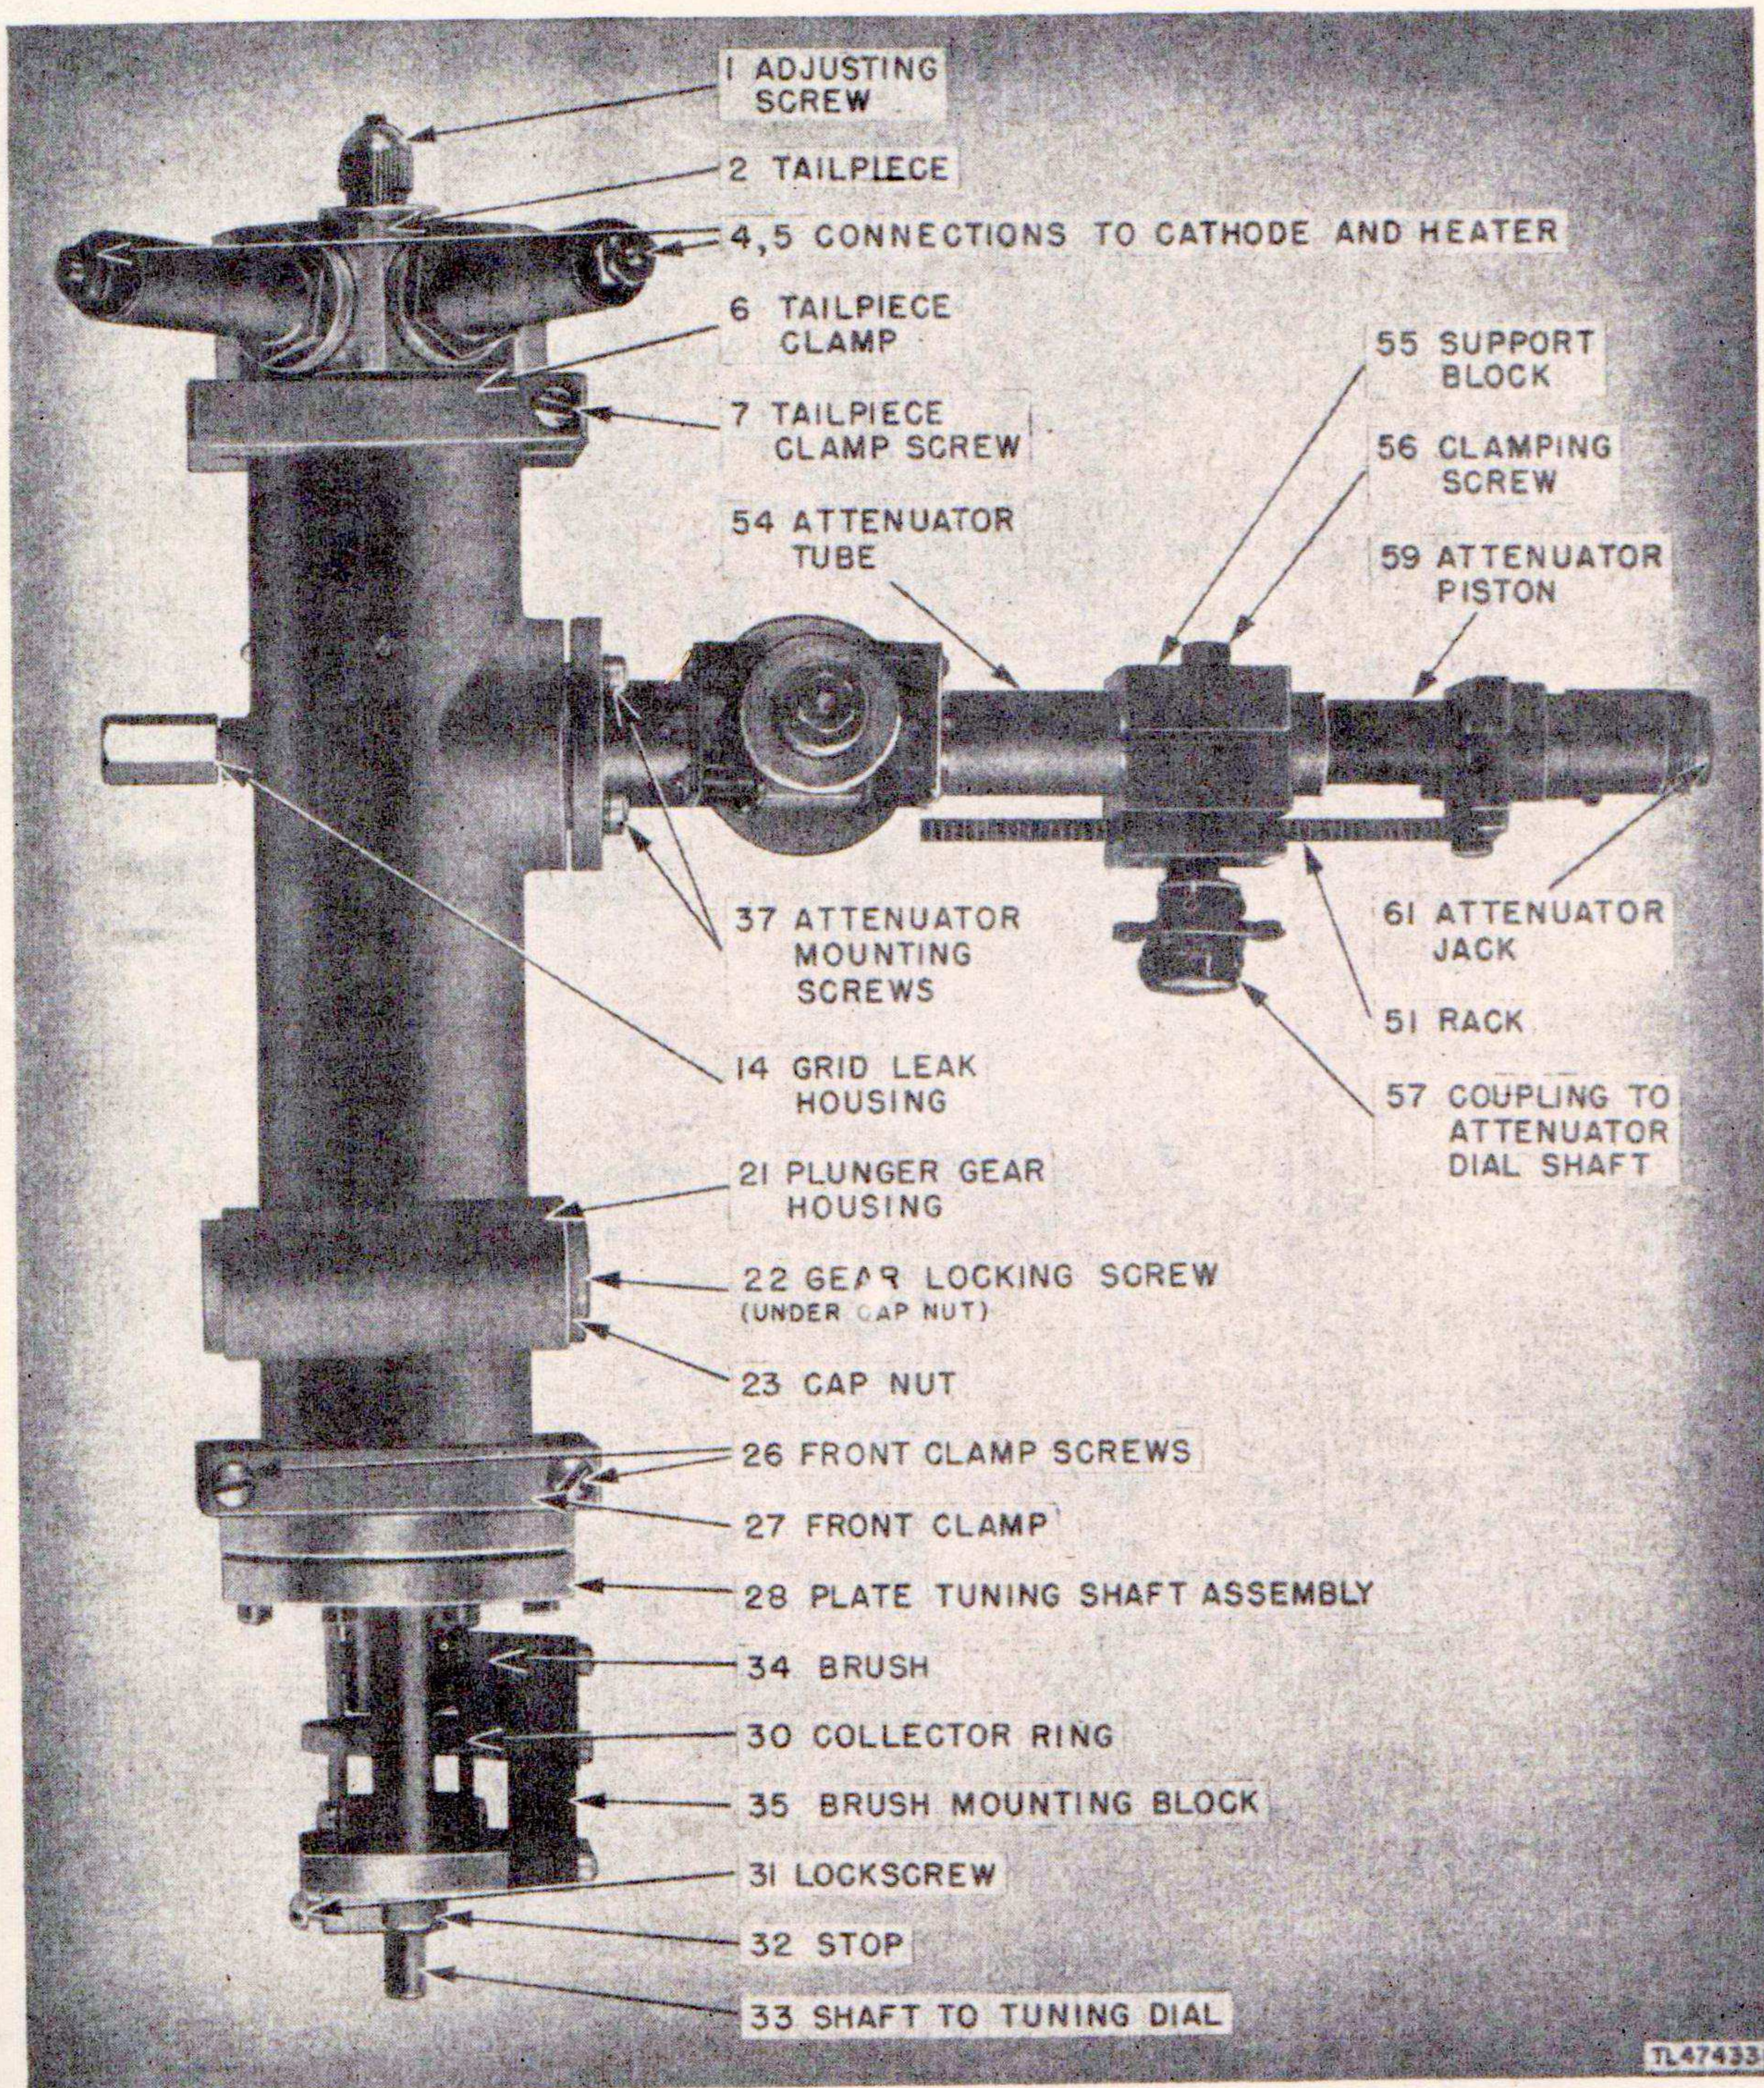

Figure 39. Oscillator assembly removed from signal generator chassis.
(1) Disconnect the attenuator cable connection (70).
(2) Unsolder and remove all thermistor terminal connections. Tag all leads to facilitate location during reassembly.
(3) Disconnect the plate lead (66) on the brush mounting block (35).
(4) Loosen the r-f tuning shaft setscrews (65) and setscrews (67) at the coupling to the attenuator dial shaft (68).
(5) While supporting the cavity assembly, remove the support block mounting screws (73) on the bottom of the chassis.
(6) Support the cavity assembly. Remove the tailpiece clamp mounting screws (74) and front clamp mounting screws (75) on the bottom of the chassis.
(7) Free the oscillator cavity and associated assemblies and remove from the signal generator chassis.
**d. Disassembly of Attenuator** (fig. 39). Remove the four attenuator mounting screws (37) that fasten the attenuator to the oscillator cavity. Separate the attenuator from the cavity.
(1) Remove the limit screw (49) and withdraw the attenuator piston (59) from the at-
1. Do not change the setting of the adjusting screw (62), or the calibration of the unit may be destroyed.
2. The lead from the thermistor coupling loop (36) is soldered (39) to the lead from the bead thermistor. This connection will be broken if the thermistor assembly mounting screws (40) are removed and the thermistor assembly separated from the attenuator assembly.
**f. Removal of Plate Tuning Shaft Assembly from Oscillator Cavity** (figs. 39 and 40). To remove the plate tuning shaft assembly (28) from the oscillator cavity proceed as follows:
(1) Remove the two screws holding the brush mounting block (35) in place.